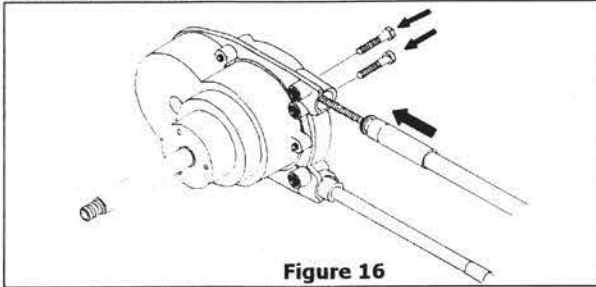

Figure 16
STEP 2. Feed the cable end into the UPPER helm entry spigot until it contacts the internal gear; then turn the steering wheel to draw the cable fully into the helm (see Figure 16). Continue turning the steering wheel until the end fitting of the cable is fully inserted into the entry spigot.